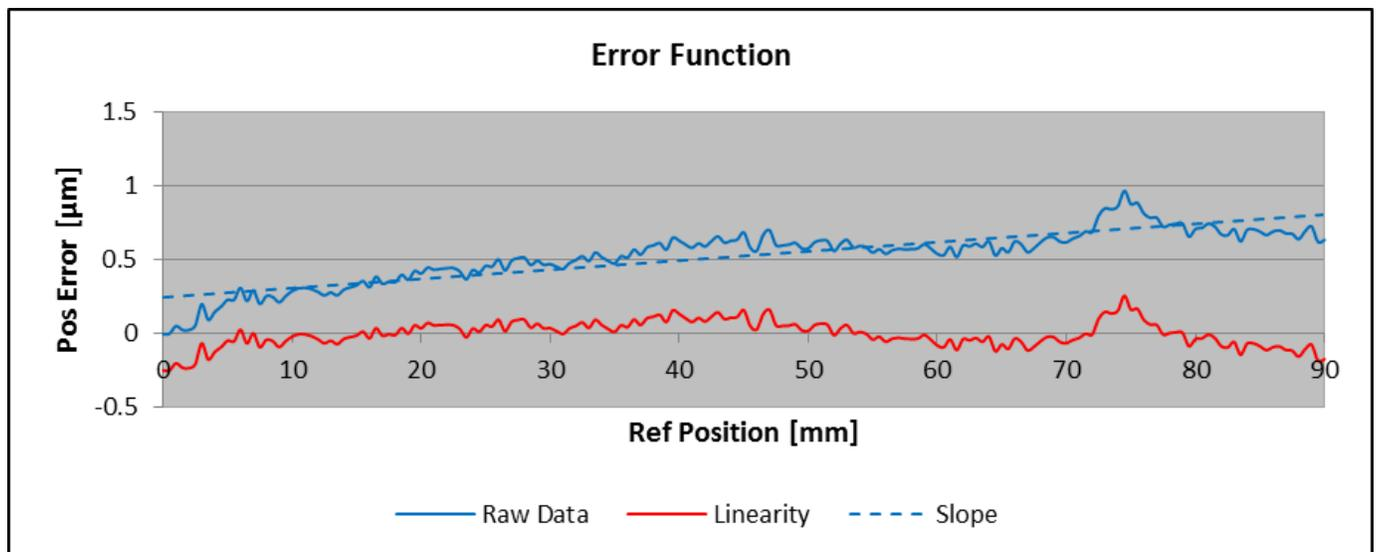

Figure 2: Typical error plot of Veratus tape scale
**Total Linearity:** The stability and process controls behind the manufacturing of linear gratings and scales keeps the slope error in the same range as the linearity error, allowing the total linearity to be specified in the  $\pm \mu\text{m}/\text{m}$  range (Figure 2, range between lowest and highest error of blue line). This is also a component of rotational error as well. For more detailed information on rotational accuracy, refer to tech note TN-1101 "Alignment of Rotary Scales".